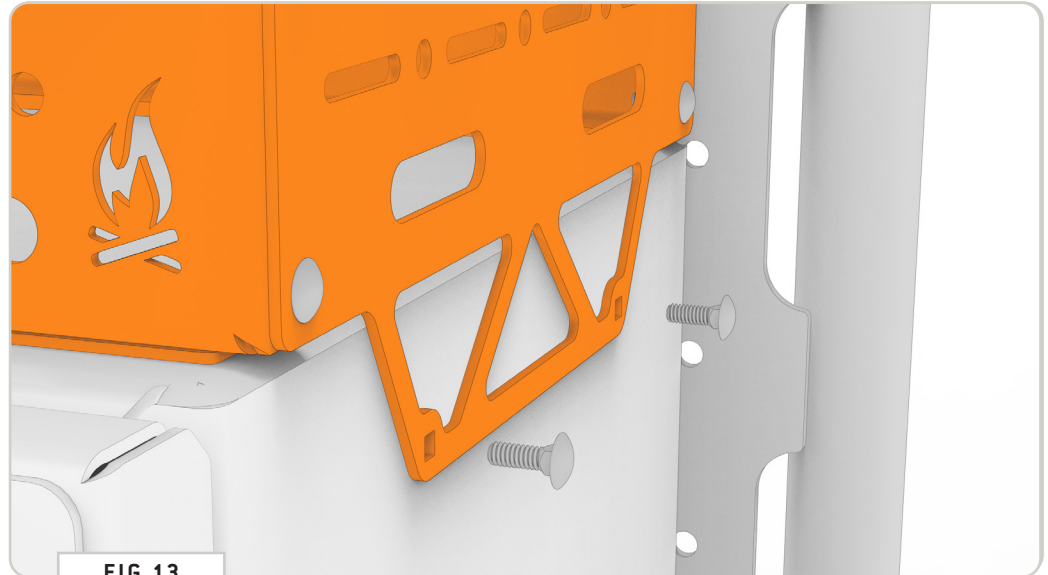

FIG 13
3.7 Lower Mounting Holes: Insert (1ea) 1/4-20x0.75 Carriage Bolts through the lower mounting holes (FIG 13).